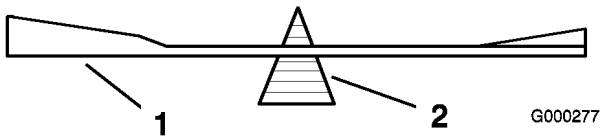
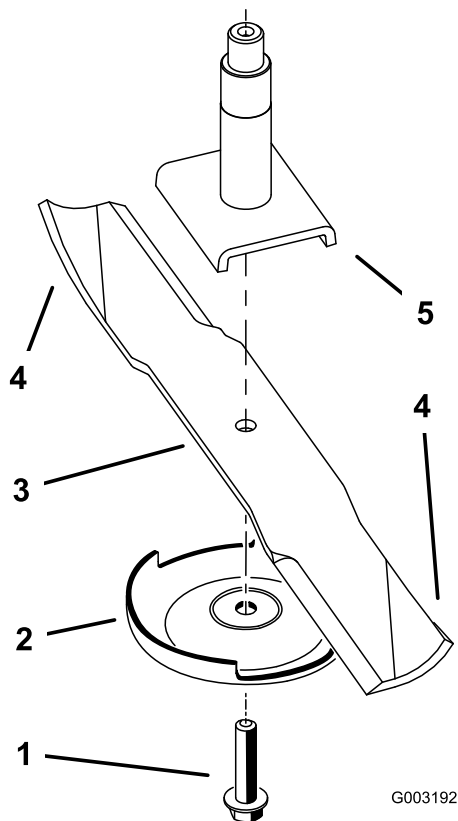

Figure 78
Figure 79
2. Remove the blade bolt, spring disk and blade from the spindle shaft (Figure 79).
2. Check the balance of the blade by putting it on a blade balancer (Figure 78). If the blade stays in a horizontal position, the blade is balanced and can be used. If the blade is not balanced, file some metal off the end of the sail area only (Figure 79). Repeat this procedure until the blade is balanced.
1. Install the blade onto the spindle shaft (Figure 79).
2. Install the spring disk and blade bolt. The spring disk cone must be installed toward the bolt head (Figure 79). Torque the blade bolt to 85-110 ft-lb (115-150 N•m).